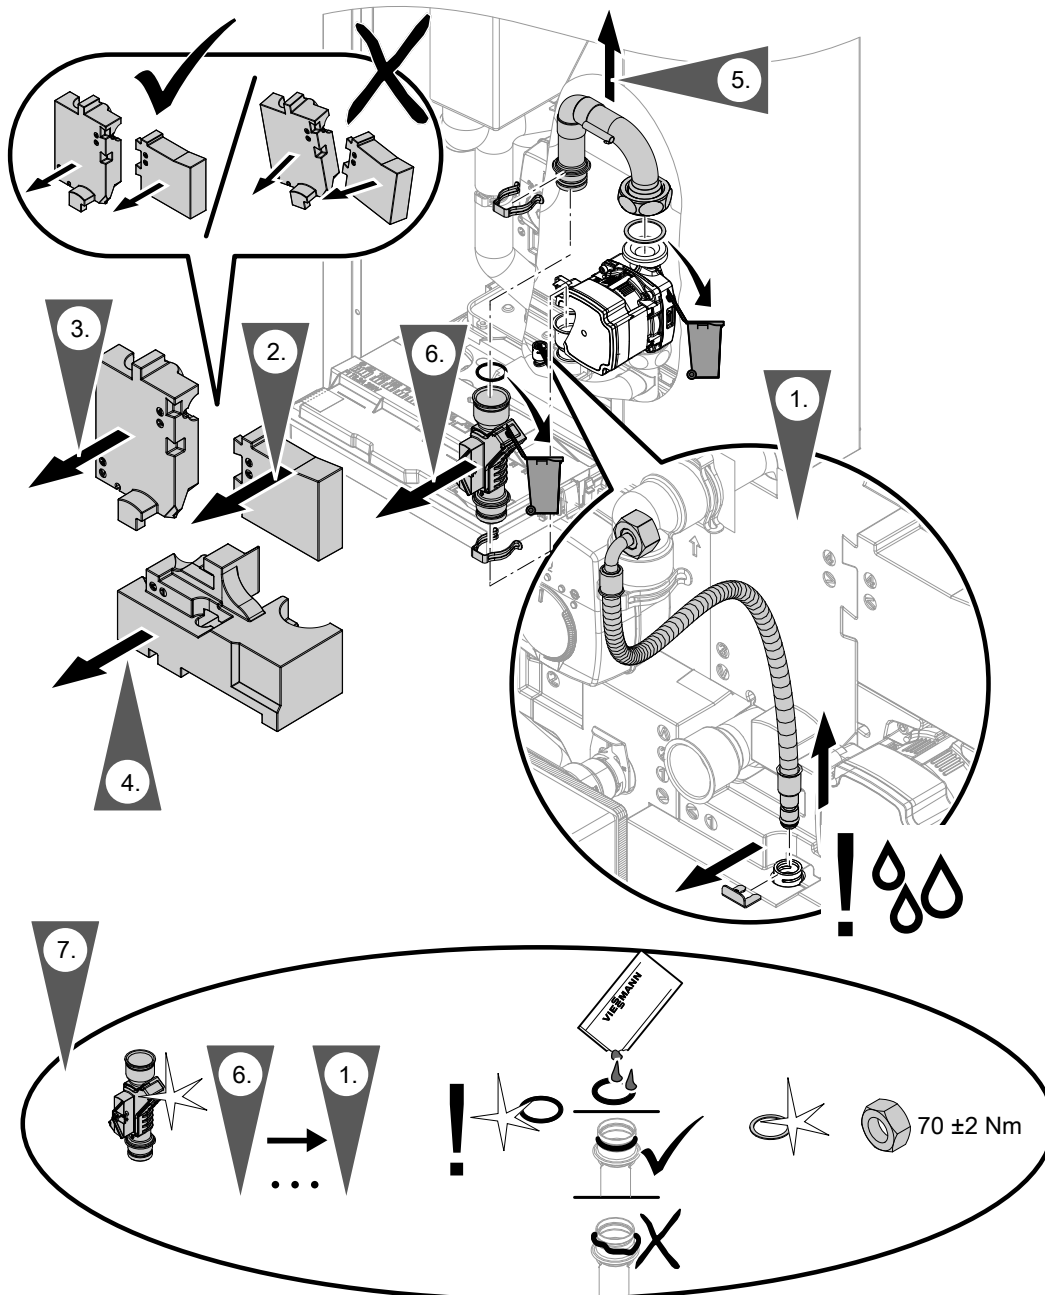

Fig. 88
- Flow sensor connecting cable: See Fig. 88.